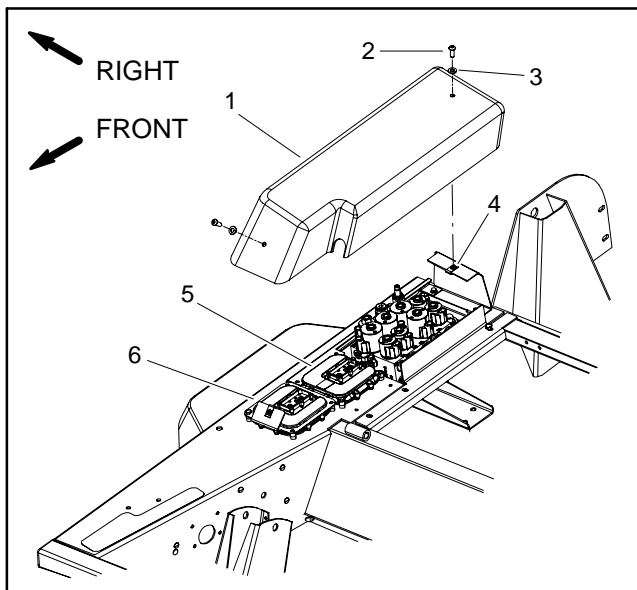
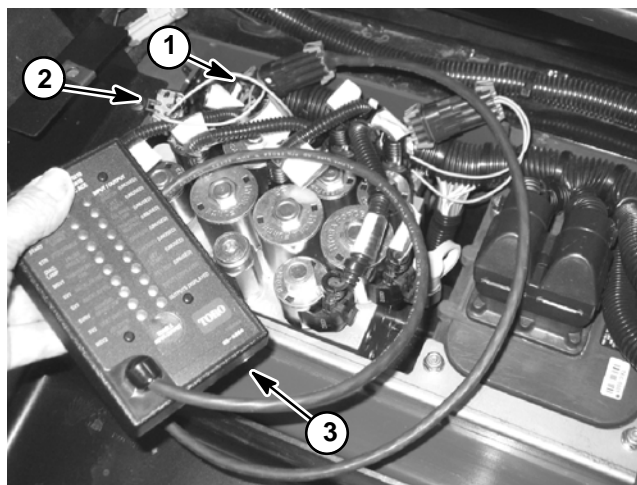

Figure 11
Figure 12
2. Remove controller cover to allow access to wire harness loopback connector (Fig. 11). Locate wire harness and loopback connector (Fig. 12). Carefully unplug loopback connector from harness connector.